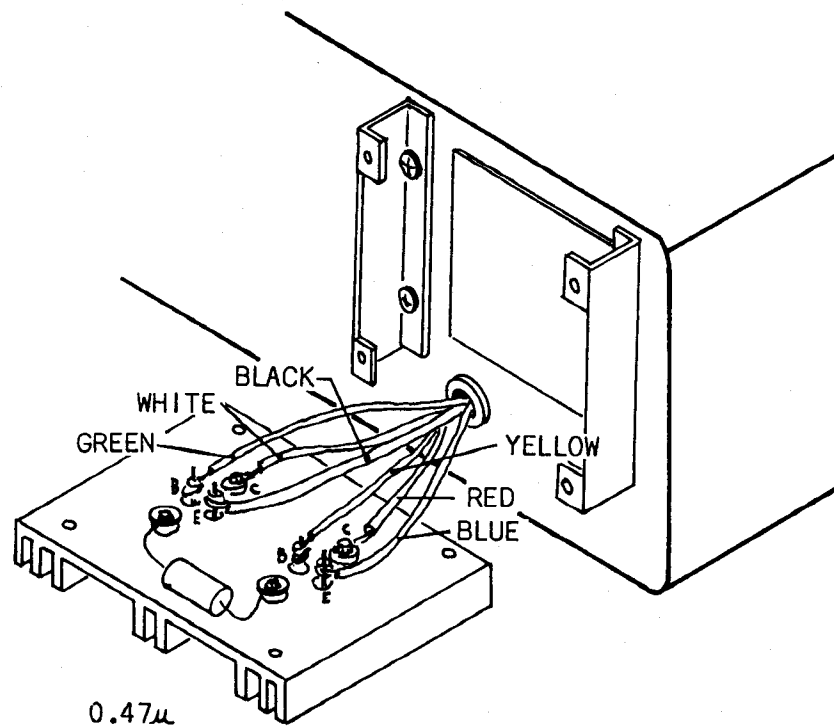

FIGURE 6-20
4. Wrap and solder the wires coming from the back panel to each transistor as shown in Fig.6-20. Make sure each wire is soldered well, but do not overheat the transistors.
If using 2SB206's, leave out the 0.47 $\mu$ f capacitor - you don't need it. Wire as shown in Fig.6-20.
If using 2SB212's, use a 2.2 $\mu$ f instead of the 0.47 $\mu$ f capacitor. Wire as shown in Fig.6-20.